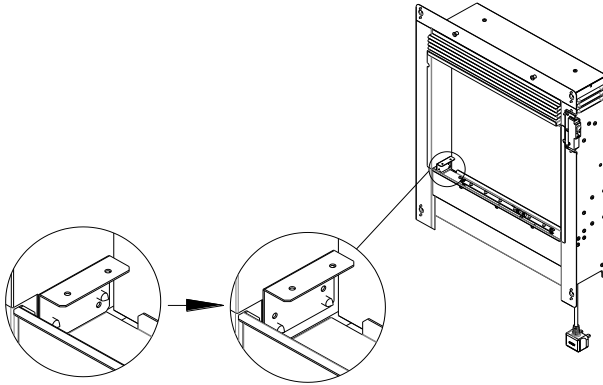

Figure 2
- Unscrew the two self-tapping screws ST4 x 8 from the fuel bed fixing bracket, change the hole position from the top two holes to the bottom two holes and refit the brackets using the two self-tapping screws ST4 x 8 as shown in figure 2 below: